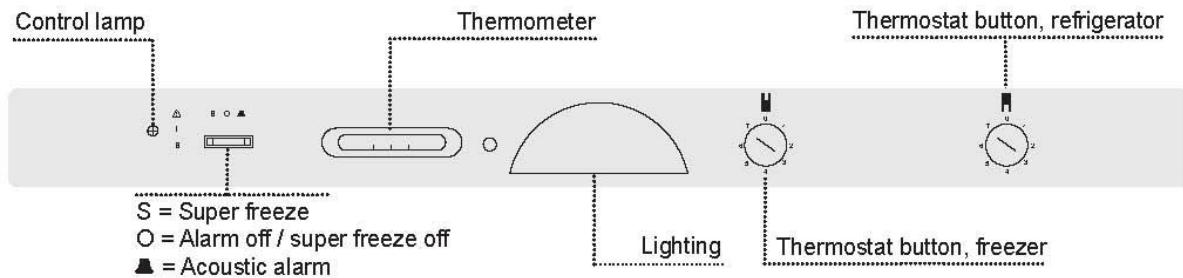

fig. 12
- The indicator lamp lights red and the acoustic alarm sounds if the temperature in the freezer is too high. To switch off the acoustic alarm, set the freeze button to **O** (see fig. 12). The indicator lamp continues to light red as long as the temperature in the freezer remains too high.